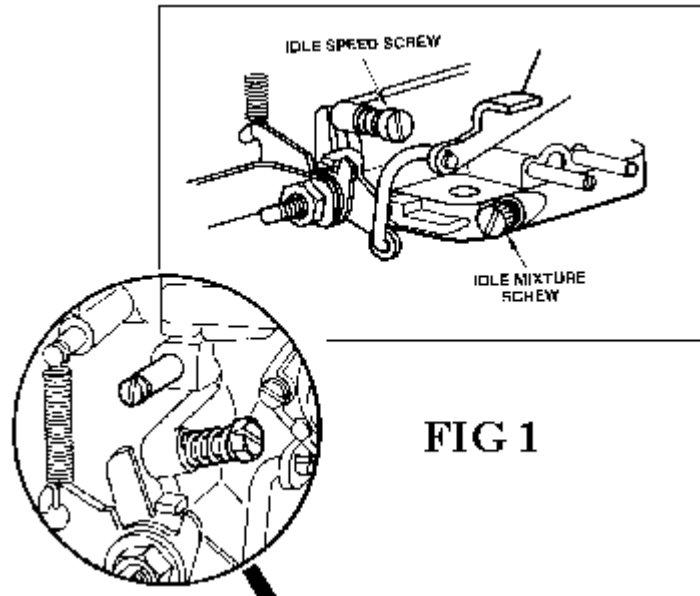

FIG 1
Idle Speed Screw should be no more than 1 1/2 turns in (Fig 1)
- 2.** Set the Idle stop screw (speed screw see fig 1) by backing out the Idle speed screw until it is not in contact with the throttle stop lever. Cycle the linkage again to be sure that the linkage comes to close without any assistance. (Checking for linkage bind) Now bring screw back into contact with the lever and continue to open or screwing in 1 turn no more than 1 1/2 turns.
- 3.** Set the mixture screw (see Fig 1) by first screwing in until the screw stops, bottoms out. **DO NOT FORCE OR BIND AS THIS WILL CAUSE DAMAGE TO THE SCREW AND IT'S SEAT IN THE BODY OF CARBURETOR.** Back out the screw 2 full turns.